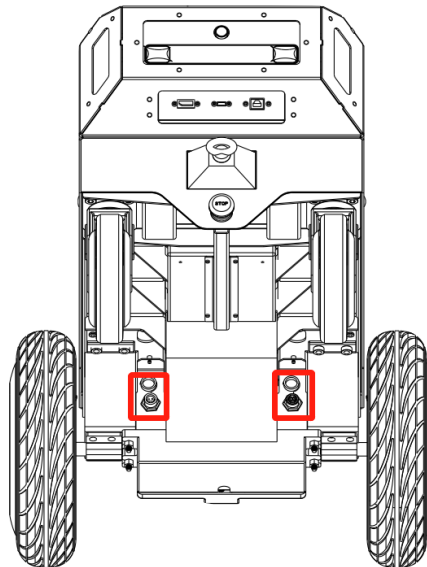

Figure 1
1. Turn off the robot, press the emergency stop button and unplug the battery power and signal wires at the position shown in *Figure 1*.